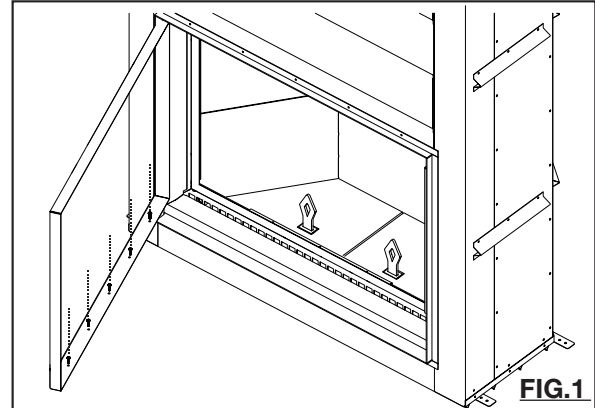

FIG.1
- C. Unscrew the top and bottom retainers inside door frame. **(FIG. 1)**